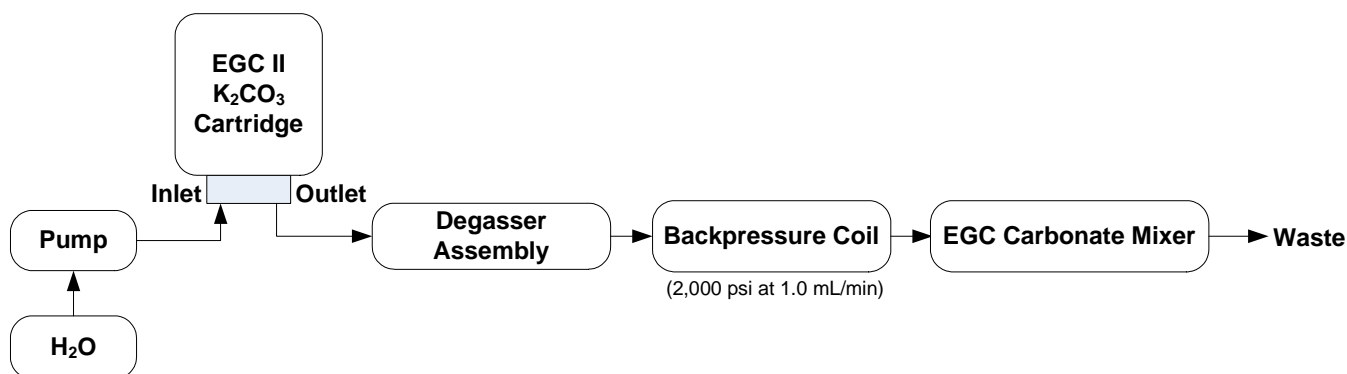

FIGURE 6
1. Connect the outlet of the yellow pressure restrictor tubing (P/N 053765) to the union attached to the INLET port of the EGC Carbonate Mixer (P/N 061686 for 4-mm columns or P/N 063443 for 2-mm columns) as shown in Figure 6.